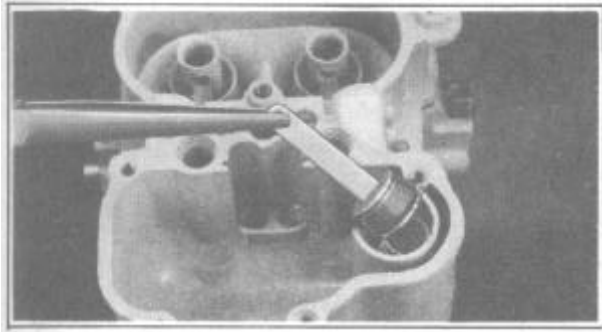

FIGURE 70
11. Install pump spring, pump plunger, and rod assembly, Figure 70.
23. Install fast idle cam, washer, and choke trip lever on choke shaft. Then install fast idle arm, pin and screw assembly and fast idle arm spring, Figure 70.